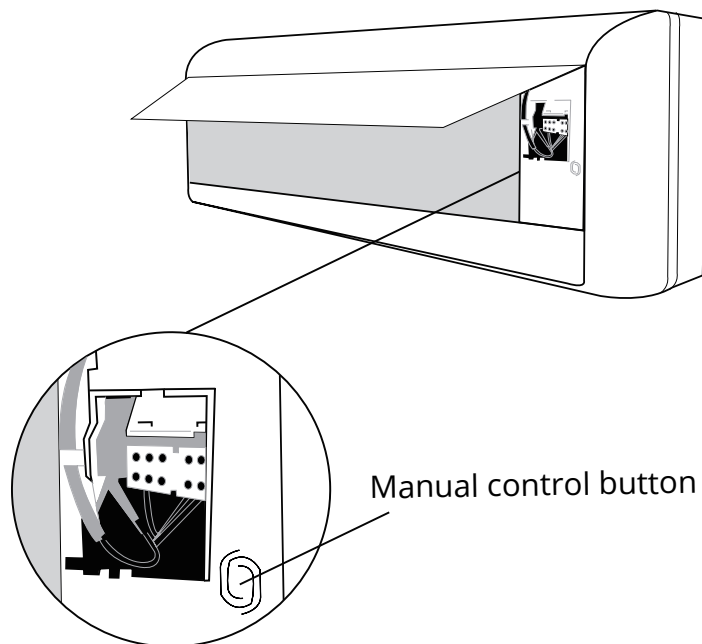

Fig. 8.1
2. The **MANUAL CONTROL** button is located on the right-hand side of the unit. Press it 2 times to select the COOL function. See **Fig 8.1**